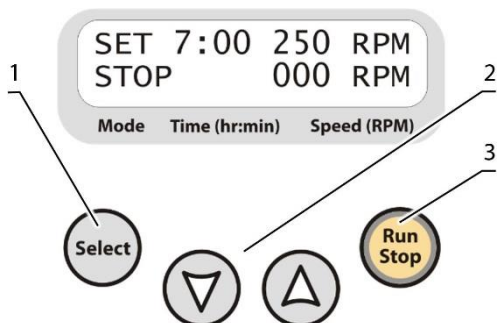

Figure 1. Control panel of CPS-20
- 5.3 **Setting the parameters.** Press the **Select** key (fig. 1/1) to choose the parameter to change. Each pressing of the **Select** key consecutively activates the parameters. The active parameter is flashing. Use the ▼ and ▲ keys (fig. 1/2) to set the necessary value. Pressing the key for more than 2 s increases the speed of value change.
- 5.4 Press the **Run Stop** key (fig. 1/3). The platform starts rotation, indication RUN appears on display and the timer in the lower line of the display starts counting the time interval.